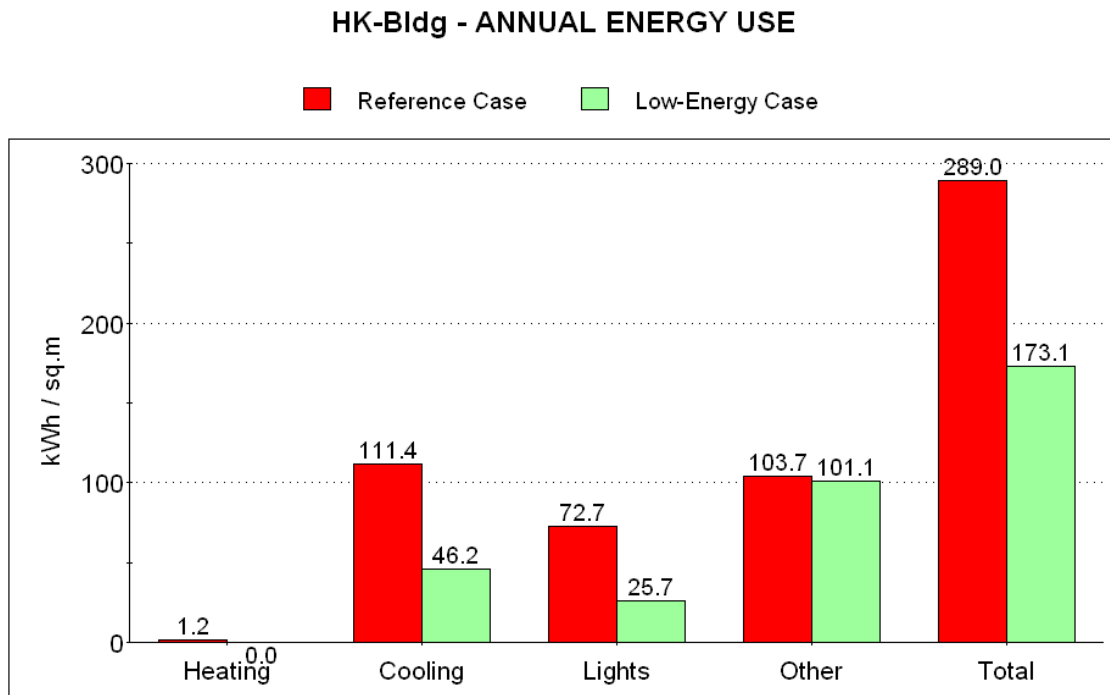

Figure 1.
- (b) Load and energy calculations were performed for an office building using a building energy simulation program. The annual energy use for a reference case and a low-energy case is shown on Figure 1.